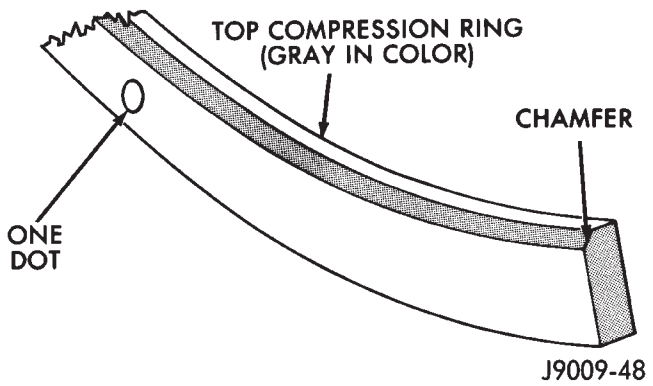
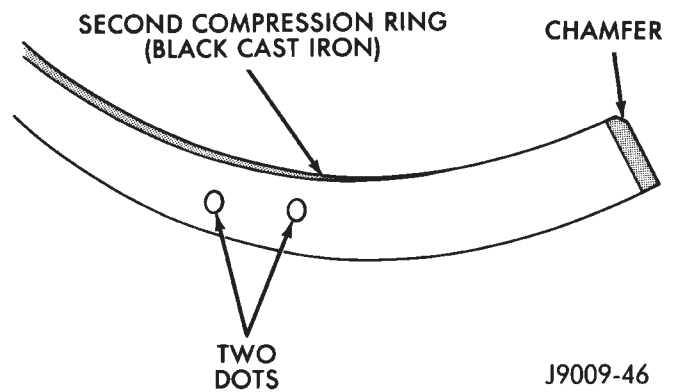

Fig. 13 Top Compression Ring Identification
Fig. 14 Second Compression Ring Identification
(5) Install the oil control rings according to instructions in the package. It is not necessary to use a tool to install the upper and lower rails. Insert oil rail spacer first, then side rails.
(6) The two compression rings are different and cannot be interchanged. The top ring (Fig. 13) is a moly ring (the scraping edge is gray in color). The second ring (Fig. 14) is a black cast iron ring (the scraping edge is black in color when new). The compression rings may also be identified by 1 or 2 dots on the top surface of the ring (Figs. 13 and 14).